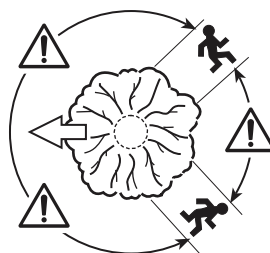

Fig. 37
- > An escape path should be planned and cleared as necessary before cuts are started. The escape path should extend back and diagonally to the rear of the expected line of fall (Fig. 37).